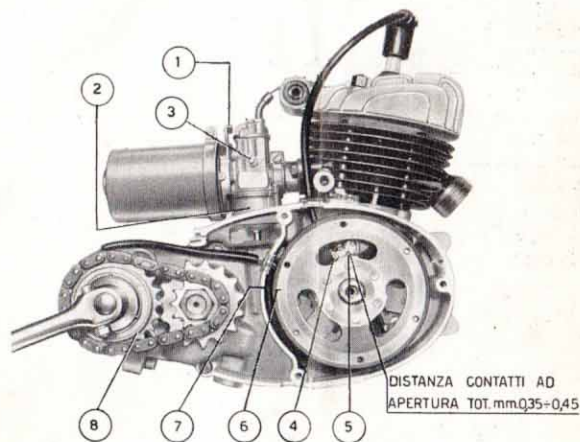
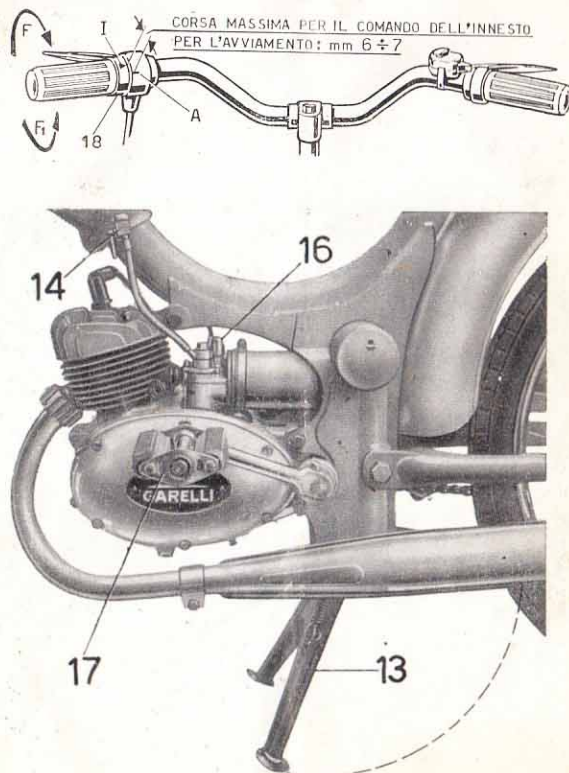

Fig. 3 - ENGINE, SIDE VIEW SHOWING FLYWHEEL MAGNETO
Fig. 6
Carburettor (fig. 3)
Flywheel Magneto (fig. 3)
(A) Starting while at rest (fig. 6):
1. Lower the support stand (13), thereby raising the rear wheel from the ground.
2. Open the fuel cock (14).
4. Push in the carburettor starting lever (fig. 3 n. 1).
5. Push on energetically the pedal (17) and when the rear wheel begins to rotate, rotate the handgrip (18) in the direction shown by the arrow F moving as far as possible the mark I towards A while continuing to pump the pedal.
6. Release the handgrip (18). To place the engine in motion after the engine is started raise the support stand, mount the seat and accelerate the engine to cause the expansion of the rubber ring which will transmit motion to the mo-ped.
The adjustment of the starting assembly is done by regulating the screw and lock nut mounted on the handgrip. The adjustment is right when, in the position shown on the fig. 6, there is a distance of 6-7 mm. between the marks A and I.
1. Open the fuel cock and push in the starting lever (fig. 3 n. 1).
2. Mount the seat and set the mo-ped in motion by pedalling. After gaining sufficient speed, pull on lever (18) and at the same
- Check and adjust the play in the starting assembly (fig. 6).